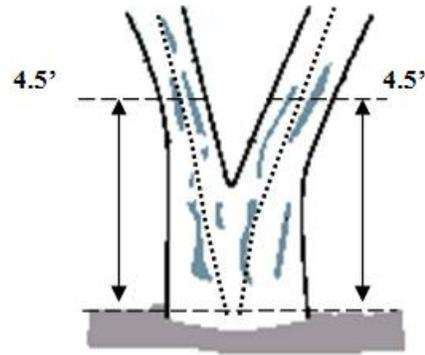

Figure 2 - Trees Forked Below 1.0 Foot
a. Trees forked below 1.0 foot. Trees forked below 1.0 foot are treated as distinctly separate trees (Figure 2). The DBH is measured for each stem at 4.5 feet above the ground. When stems originate from pith intersections below 1.0 foot, it is possible for some stems to be within the limiting distance and others to be beyond the limiting distance. If a stem originates from a fork that starts below 1.0 foot, forks again between 1.0 and 4.5 feet (Figure 5-B), the rules in Trees forked between 1.0 foot and 4.5 feet apply.